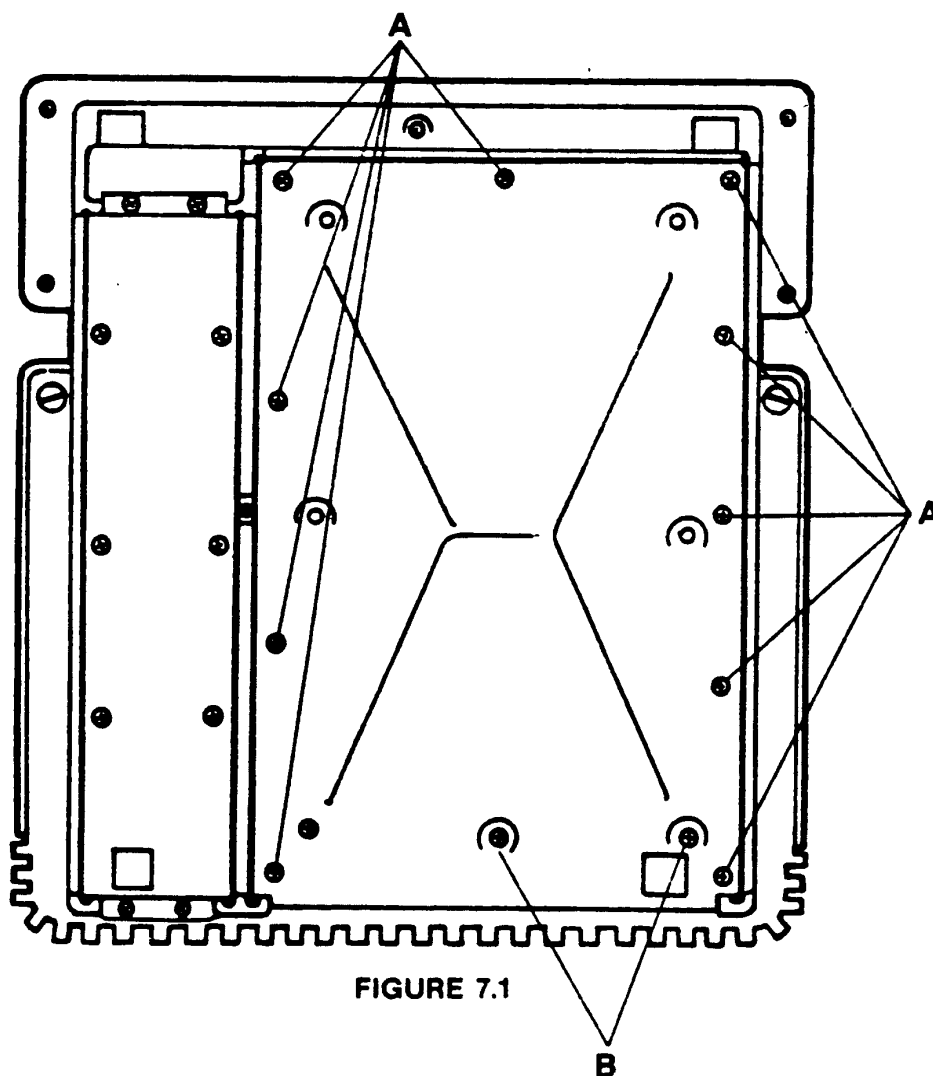

FIGURE 7.1
6. Locate the ten (10) Phillips screws around the edge of the Logic access panel. Refer to Figure 7.1 item A. Locate the two (2) additional recessed screws that are about one and one-half inches in from the rear edge of the panel. Refer to Figure 7.1 item B.
7. Loosen these twelve (12) securing screws. These screws may be captured and if so should not come free of the access panel.